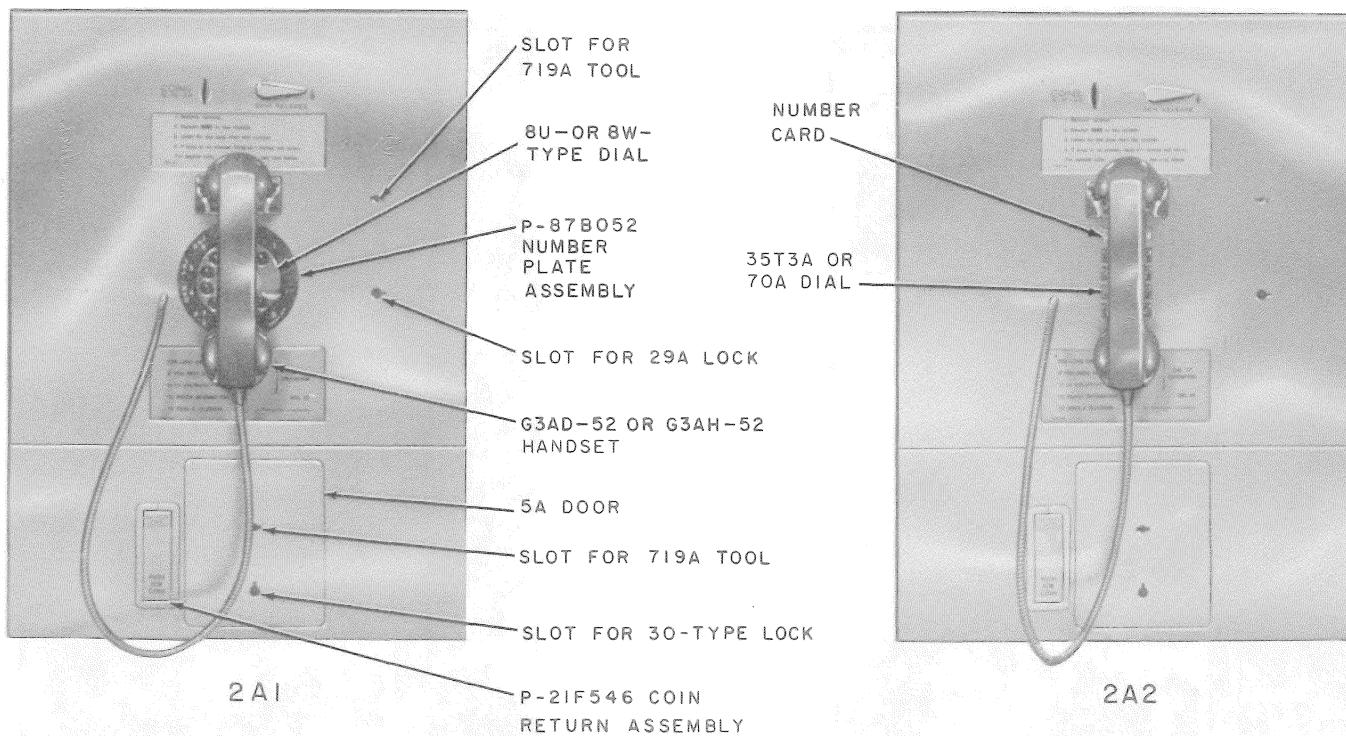

Fig. 4—2A-Type Coin Telephone Sets
2.02 The 2-type coin telephone set (Fig. 4 and 5) can be installed in the following: